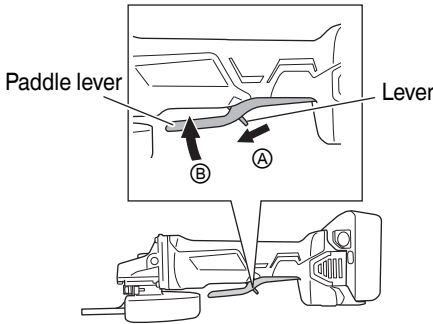

Fig. 7
- Turn the grinder "on". (Fig. 7)
To switch on, slide the lever in the direction of Ⓐ and press the paddle lever in the direction of Ⓑ as shown in Fig. 7. Release the paddle lever to switch off.